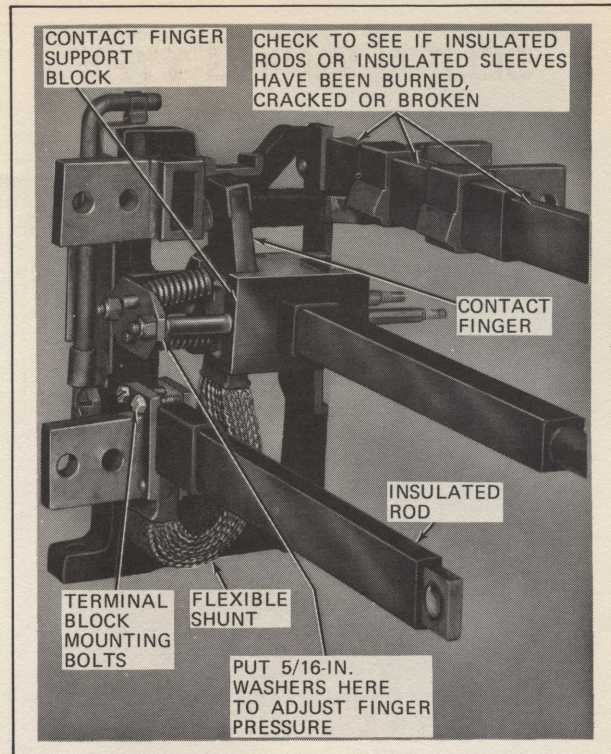

FIG. III-8. LOWER END FRAME AND PARTIAL ASSEMBLY OF CONTACT AND SUPPORT PARTS.
1. Remove the two bolts holding the terminal block of the flexible shunt to the insulated support rod, Figs. III-8 and III-9.